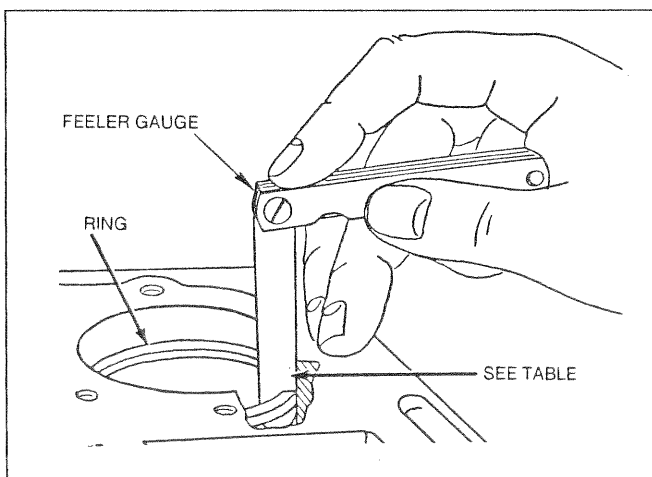

Figure 24. Checking Ring End Gap
Before attempting to check ring end gap, clean all carbon from ends of rings and from the cylinder bore. Then, check piston ring end gap as follows (Figure 24):
- Use a feeler gauge to check ring end gap as shown in Figure 24.